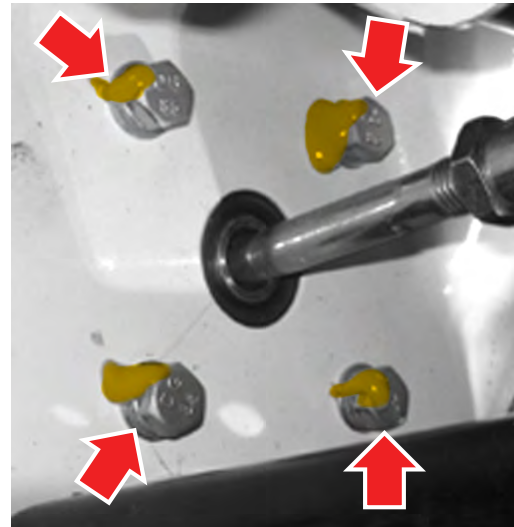

Figure 7-3
3. Apply torque seal to bolts (see *Figure 7-3*).